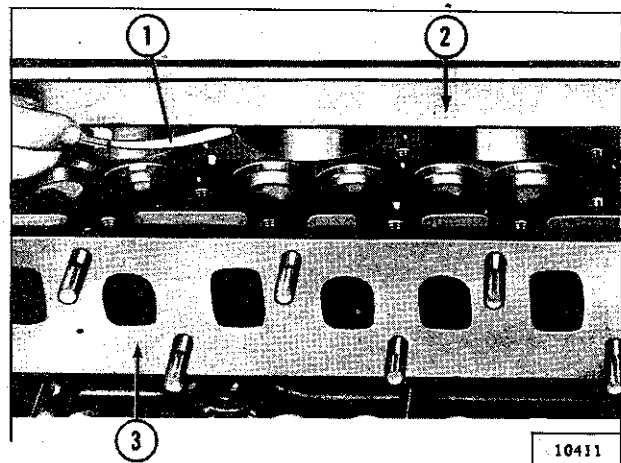

FIG. 32—CHECKING CYLINDER BLOCK FOR DISTORTION
a. Examine all machined surfaces of the cylinder block for burrs and scores. Check cylinder block distortion by placing a straight edge along the length of the cylinder head surface of the block. With a feeler gauge check for clearance between the straight edge and the block as shown in Fig. 32, particularly between adjacent cylinders.